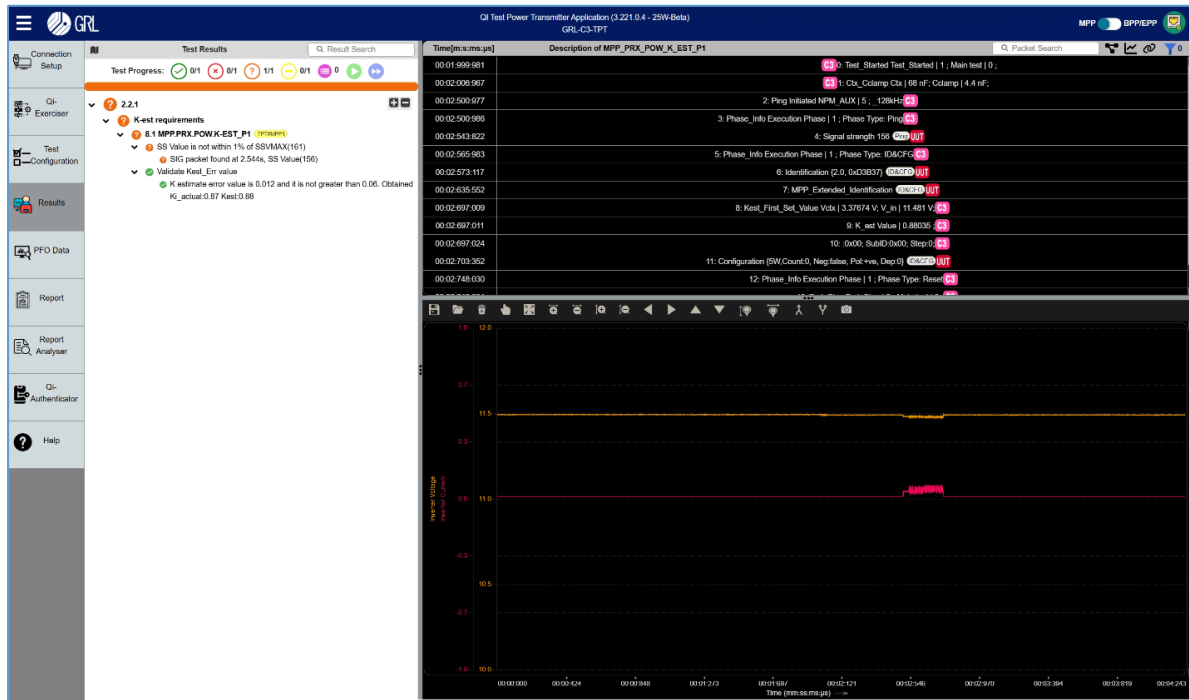

FIGURE 2.29: EXECUTE (0,0) POSITION TEST CASES - #10
10. Once the test execution is started then the progress can be viewed in the “Results” tab as shown in Figure 2.29 below.